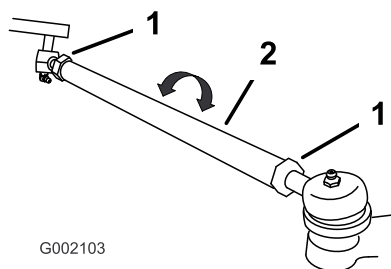

Figure 16
2. If the measurement does not fall within the specified range (refer to the dimensions and parameters at the beginning of this procedure), loosen the jam nuts at both ends of the tie rods (Figure 16).